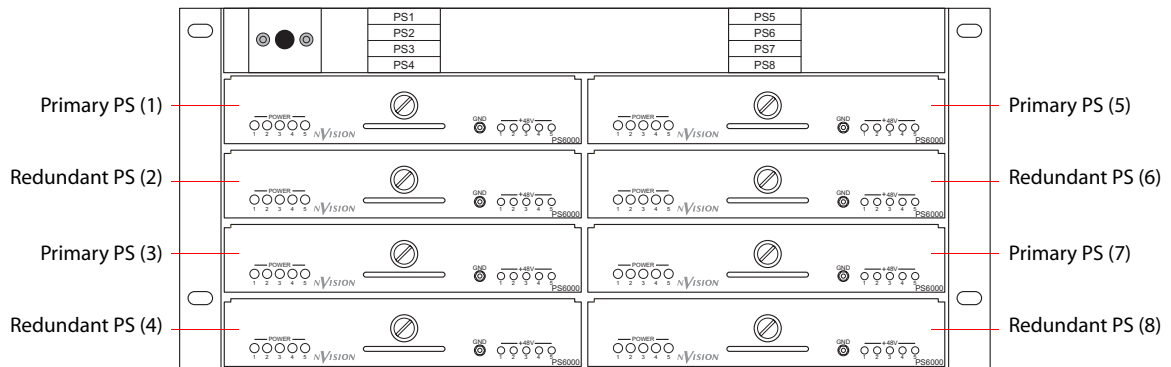

Figure 3-3. NV6257 Power Supply (Front View)
See Figure 3-3 on page 28. Two power supply cables (WC0085), provided by Miranda, are needed to connect a single NV6257 to the two routers.
a Facing the front of the **NV6257**, install the primary PS6000 power supply modules in slots *PS 1*, *PS 3*, *PS 5* and *PS 7*, as shown in Figure 3-3.
b (Optional) Facing the front of the **NV6257**, install the redundant PS6000 power supply modules in slots *PS 2*, *PS 4*, *PS 6* and *PS 8*, as shown in Figure 3-3.
- a Facing the front of the **NV6257**, install the primary PS6000 power supply modules in slots *PS 1* and *PS 3*, as shown in Figure 3-3 on page 28.
- b (Optional) Facing the front of the **NV6257**, install the redundant PS6000 power supply modules in slots *PS 2* and *PS 4*, as shown in Figure 3-3.
- a Facing the front of the **NV6257**, install the primary PS6000 power supply modules in slots *PS 1*, *PS 3*, *PS 5* and *PS 7*, as shown in Figure 3-3 on page 28.
- b (Optional) Facing the front of the **NV6257**, install the redundant PS6000 power supply modules in slots *PS 2*, *PS 4*, *PS 6* and *PS 8*, as shown in Figure 3-3 on page 28.